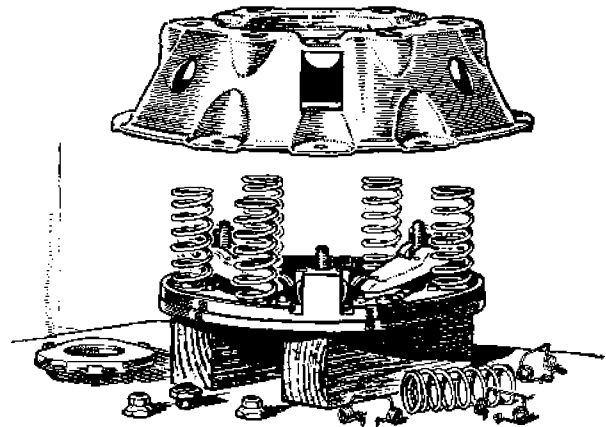

Fig. E.4.
Place the pressure plate on the blocks under the press and place the thrust springs (5) in a vertical position on the plate, seating them on the bosses provided. (See Fig. E.4.)